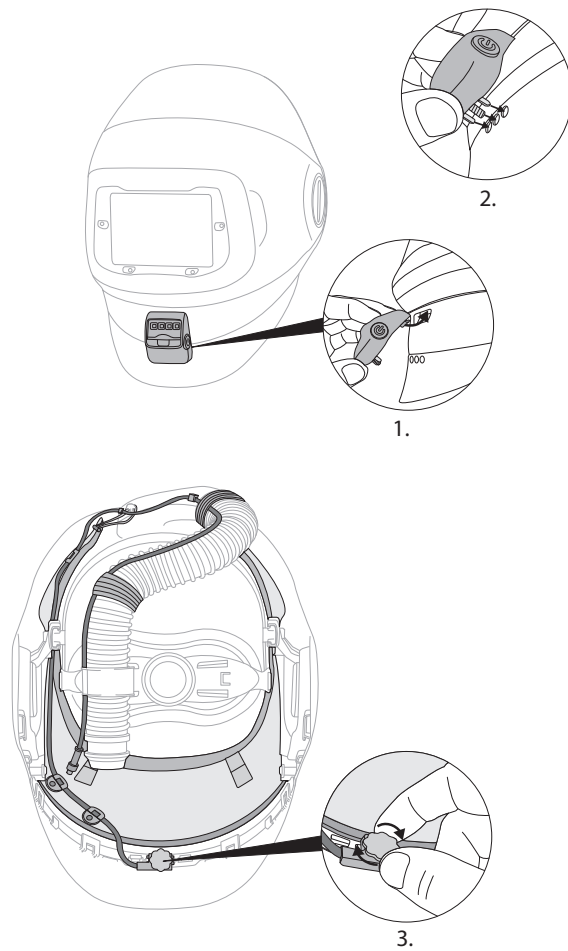

Fig. 31d
- v. Attach the task light to the welding helmet by fitting the tab into the notch on the front of the welding helmet and then pressing the task light into the mounting piece. Hand tighten the mounting screw on the inside of the welding helmet (Fig. 31d).